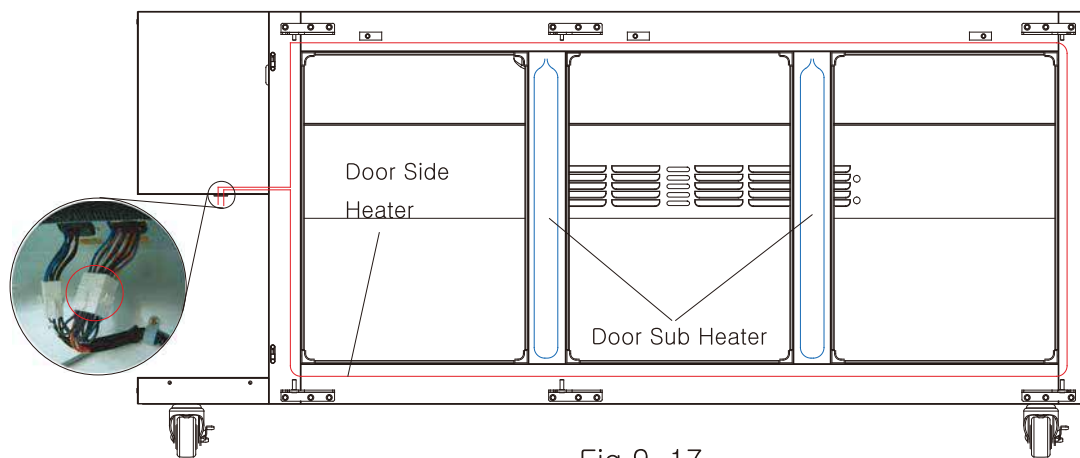

Fig 9-17
2. For the location of the door side heater and the door sub heater, refer to (Fig 9-17)